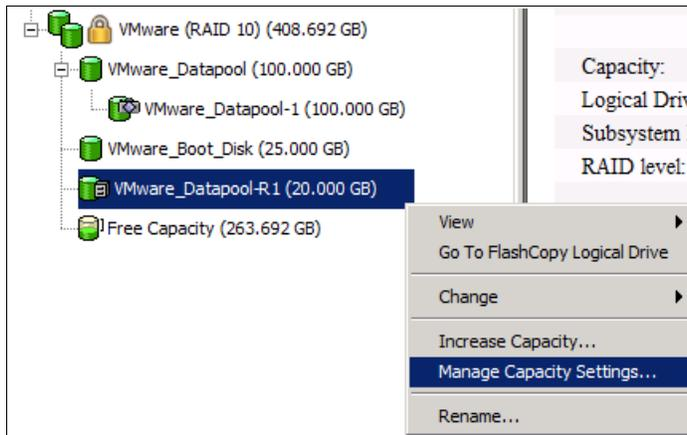

Figure 2-29 Manage Capacity Settings
4. Right-click the Repository and select **Manage Capacity Settings** as in Figure 2-29.